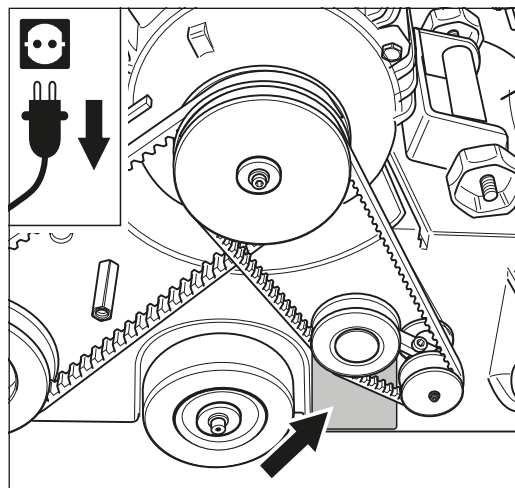

Fig. 3 Machine type plate on machine housing.
- 4 The machine type plate is located on the machine housing below the belt tensioner (fig. 3).
Serial number	see type plate (fig. 3, fig. 6)
Year of manufacture	see type plate (fig. 3, fig. 6)